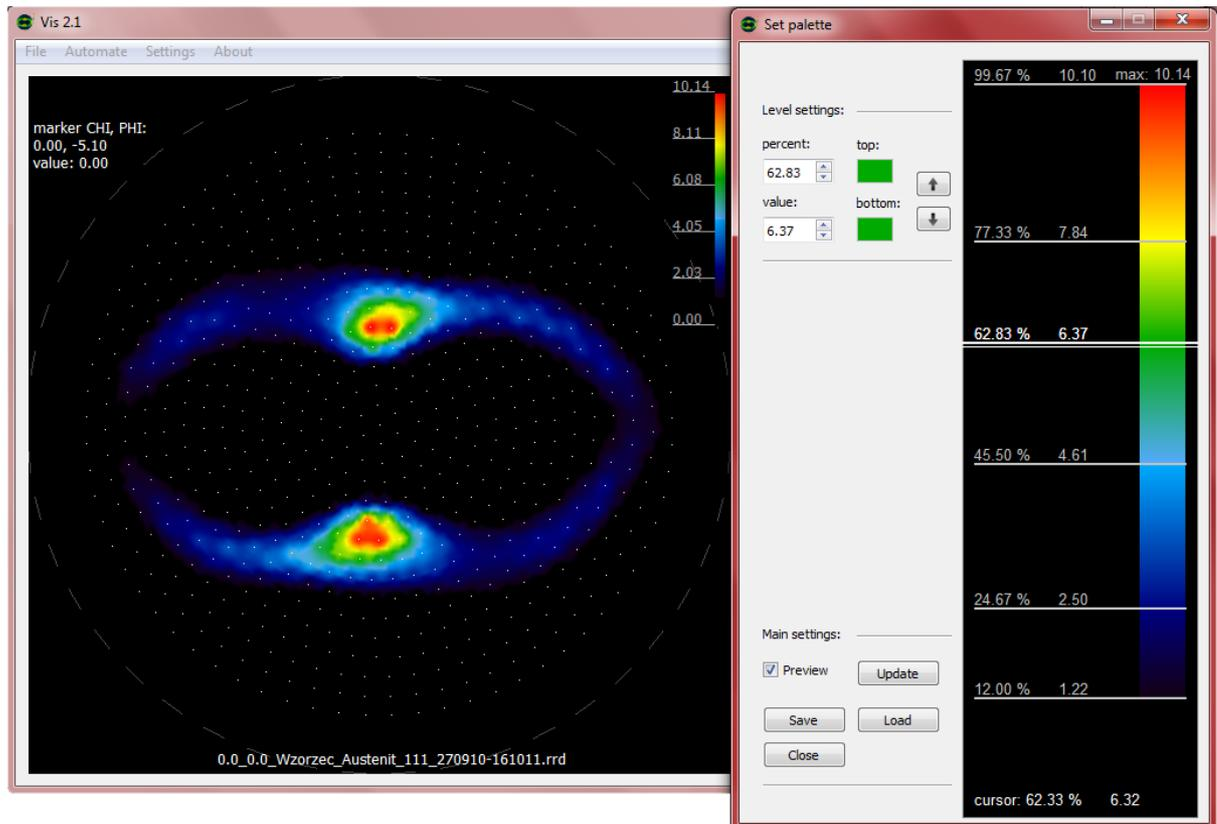

Figure 4. User-defined palettes can emphasis characteristic elements of pole figures
- On-line visualization of registering pole figures with possible definition of the spectral range of the interest for imaging, baseline subtraction, real-time color scale modifications and view of the measured spectrum for each grid point or the pole figure value at any (χ, ϕ) -coordinates (Fig. 4).